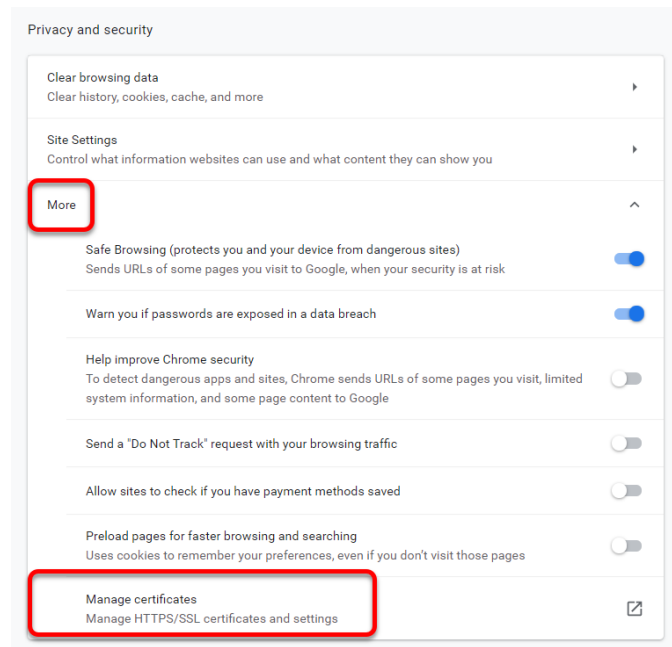

Figure 72: Manage Certificates
2. At the bottom of the **Privacy and Security** section on the Settings page, click **More** then click **Manage certificates** (Figure 72).